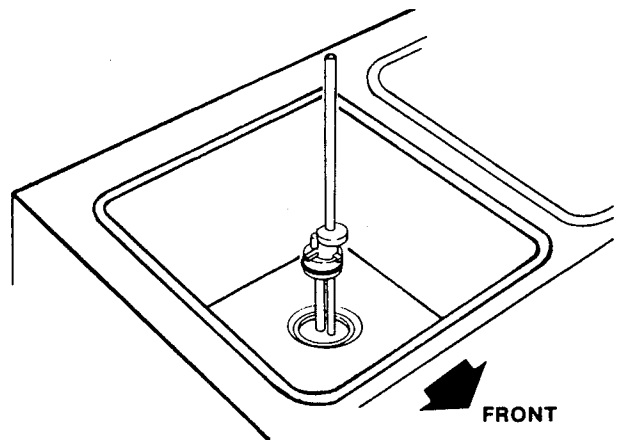

Figure 27. Installing Mix Inlet Regulators
- K. Install the mix inlet regulators into the hopper with the air inlet (long) tube toward the front of the freezer (Fig. 27).